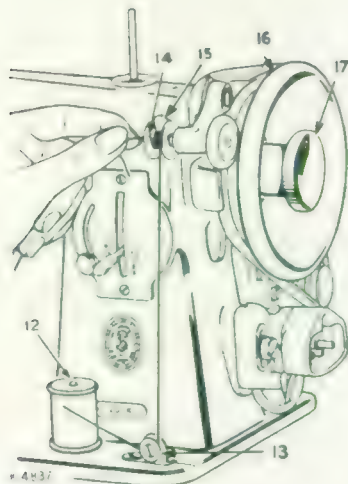

Fig. 12. Winding the Bobbin.
Loosen the hand wheel by turning stop motion screw 17, Fig. 12, over toward you, place both feet upon the treadle and turn the hand wheel over toward you, at the same time allowing the feet to move freely and lightly with the motion of the treadle. Continue to do this until a regular and easy movement is acquired and you are able to work the treadle so that you can re-start the machine with the wheel turning toward you.
TO WIND BOBBIN. *See Fig. 12.*
2. Lock bobbin in place by pressing bobbin winder down until latch 15, Fig. 12 engages.
If pressure of bobbin winder pulley against hub of hand wheel is insufficient for winding the bobbin, press down bobbin winder until latch 15, Fig. 13 drops and holds it in position. Loosen adjusting screw 18, Fig. 13. With forefinger, push back upper end of slotted plate 19 as far as it will go, as shown in Fig. 13, and at the same time, press bobbin winder pulley against hub of hand wheel. Tighten adjusting screw 18. If thread does not wind evenly on bobbin, loosen screw which holds tension bracket 13, Fig. 12 in position. Move bracket to the left if bobbin winds high on right: move bracket to the right if bobbin winds high on left. When bracket is properly centred, thread will wind evenly across bobbin.